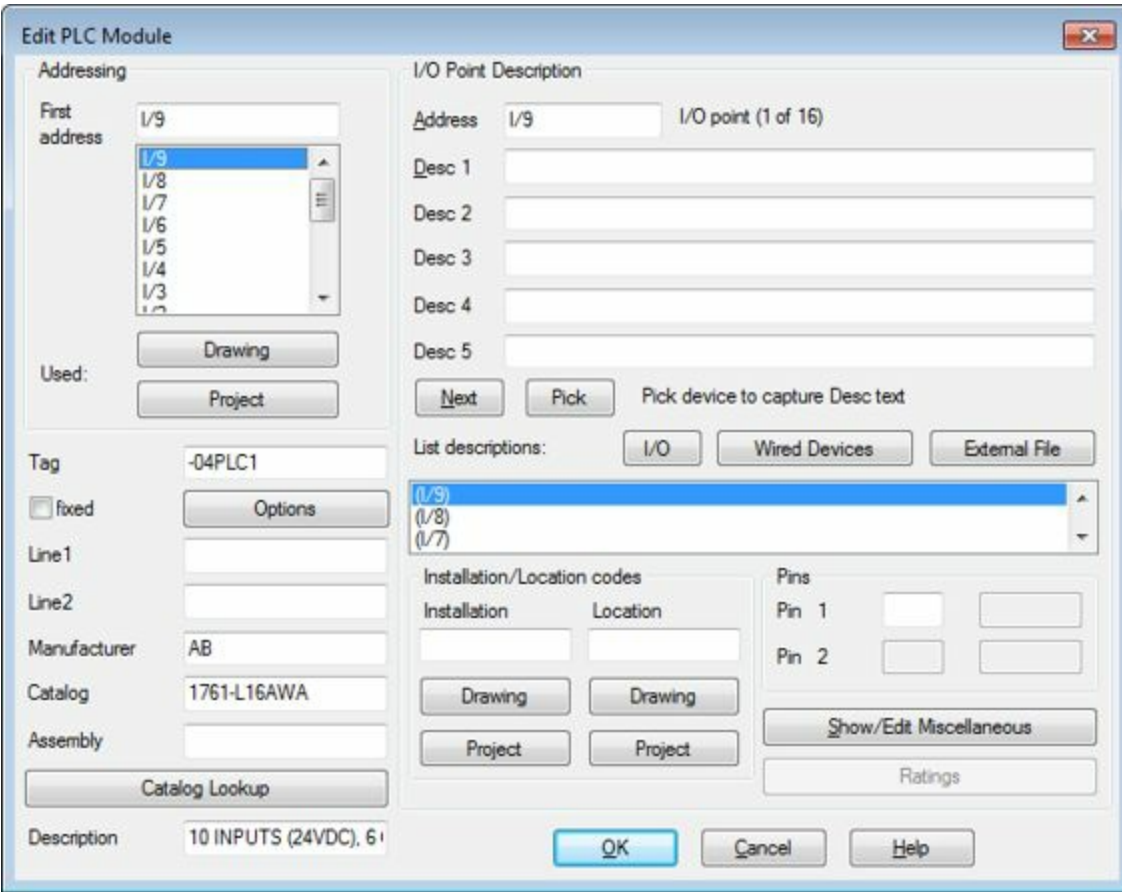

Figure-8. Edit PLC Module dialog box
- Click in the drawing area to place the PLC. The **Edit PLC Module** dialog box will be displayed; refer to Figure-8.